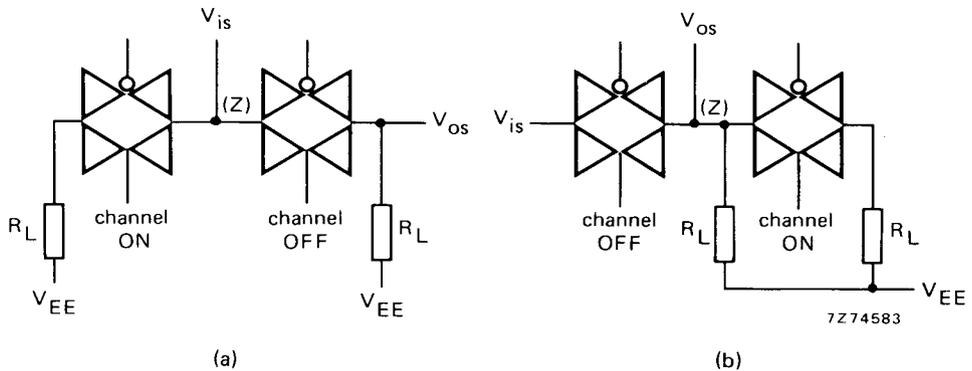

Fig. 10.
- $R_L = 1 \text{ k}\Omega$; $V_{is} = \frac{1}{2} V_{DD(p-p)}$ (sine-wave, symmetrical about $\frac{1}{2} V_{DD}$); $20 \log \frac{V_{os}}{V_{is}} = -50 \text{ dB}$; see Fig. 10.